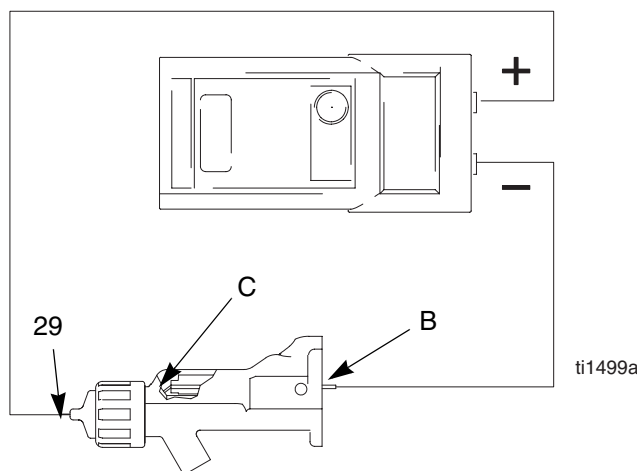

Fig. 6. Test Electrode Resistance
1. Insert a conductive rod (B) into the gun barrel (removed for the power supply test) and against the metal contact (C) in the front of the barrel.
2. Measure the resistance between the conductive rod (B) and the electrode (29). The resistance should be 20-30 megohms. See FIG. 6..